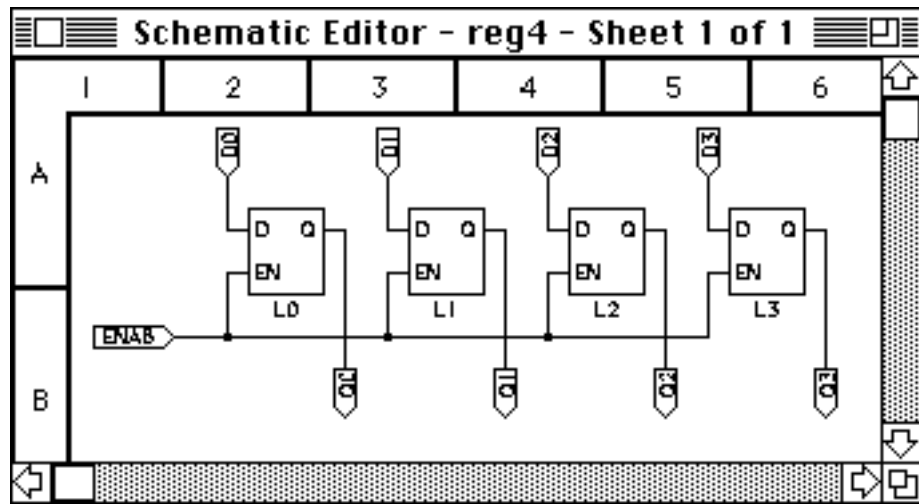

Figure 3-20 Schematic Reg4
3. Wire the schematic, name the nets, and name the symbol instances as shown in Figure 3-20.